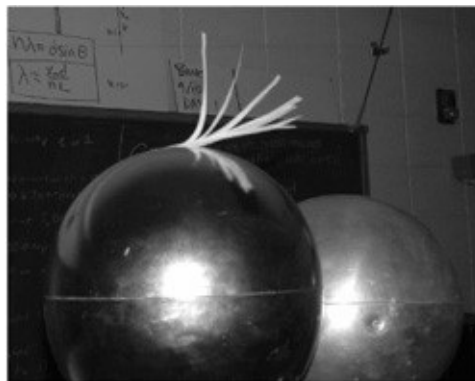

Figure 97-1 *Like charges repel, causing the pieces of paper to separate.*
3. Turn on the generator and observe the paper hairs separating and standing on end, as shown in Figure 97-1.